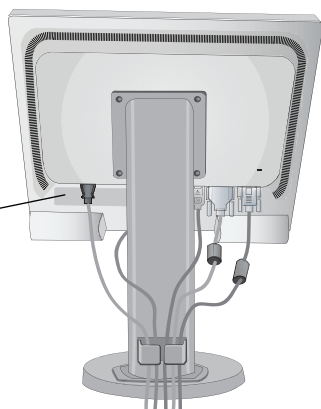
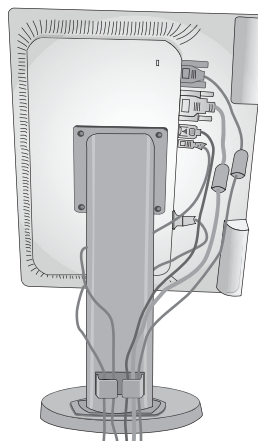

Figure B.2
Figure B.3
5. Position the Video Signal Cable and power cord between the holes on the Stand, as indicated in **Figure B.2/Figure B.3**. The model name is on the label.